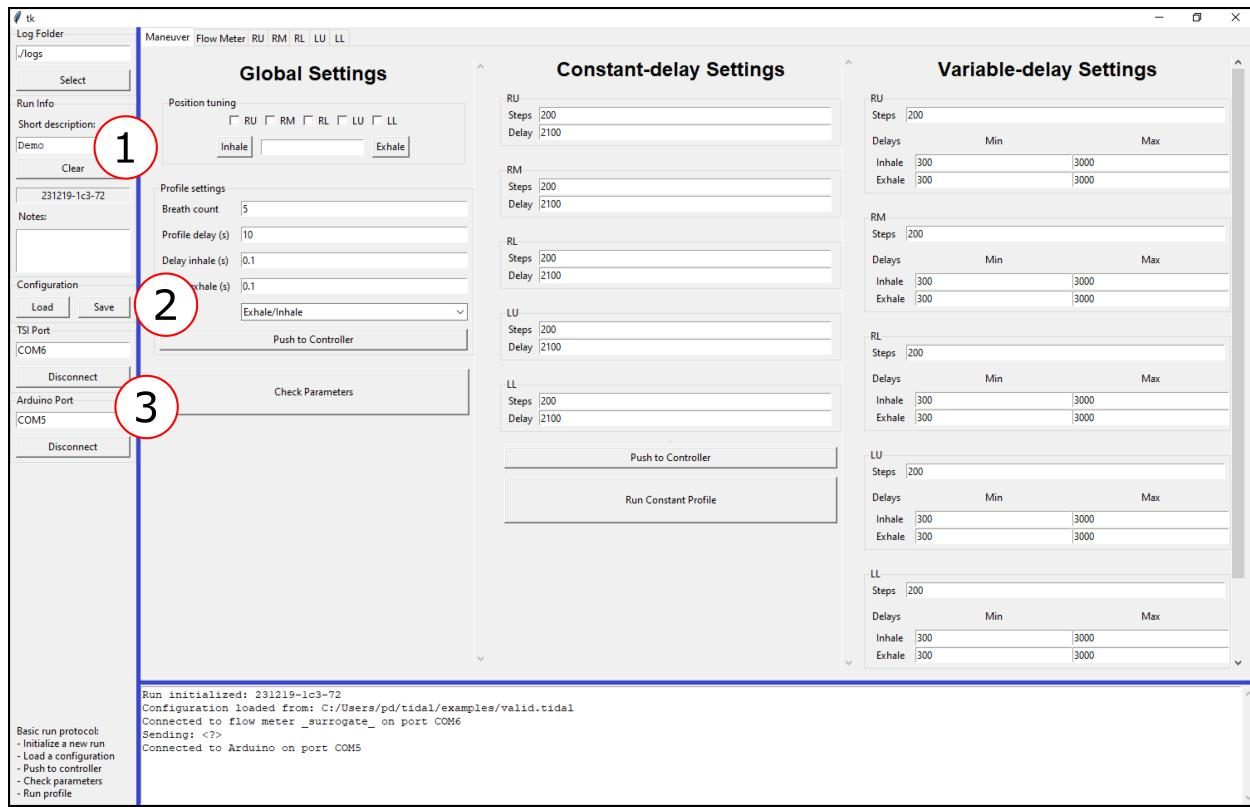

Figure 5: Setup. Enter a brief description of the run, load a configuration, and connect to the peripherals.
**Figure 5** shows the process of setting up a run.